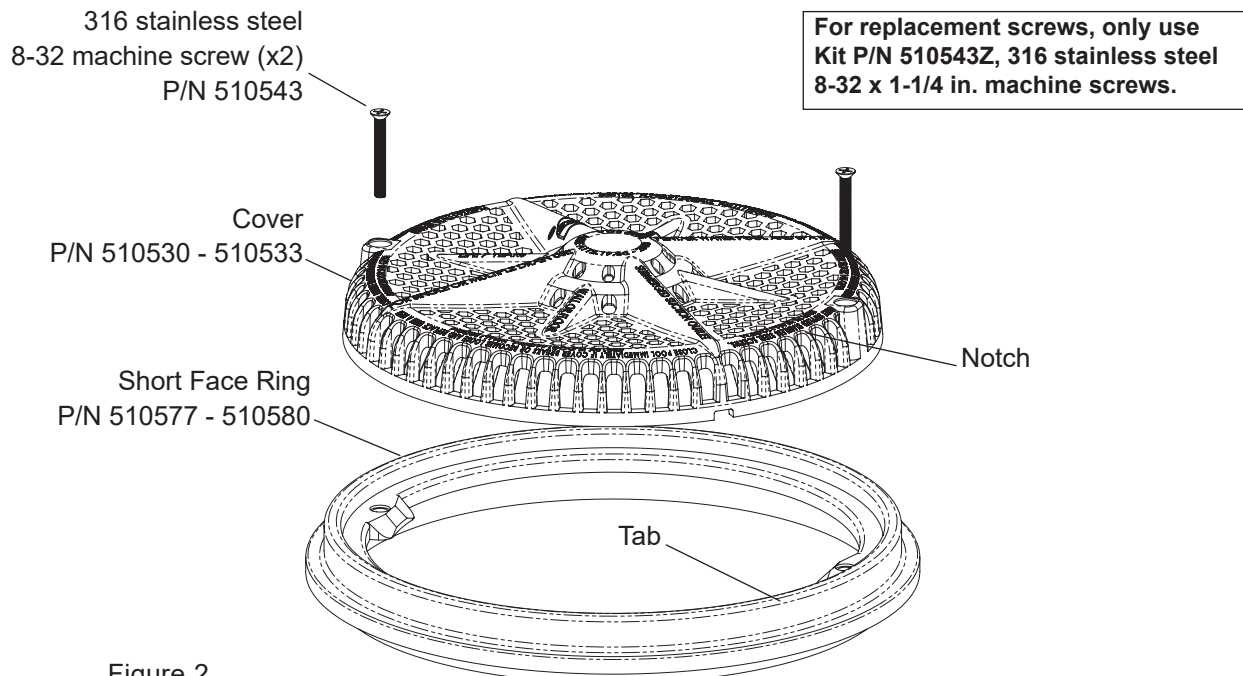

Figure 2
- Mount the drain cover on top of the face ring/suction outlet (see Figure 2).
- Install the two (2) 316 stainless steel 8-32 machine screws (provided) into the holes in the top of the cover. Using a No. 2 Philips head screwdriver, tighten each retaining screw to a **torque value of 10.00 (minimum) to 15.0 (maximum) in/lbs** to secure the cover. **HAND START EACH SCREW. DO NOT OVER TIGHTEN THE SCREWS. DO NOT ASSEMBLE WITH POWER TOOLS.**